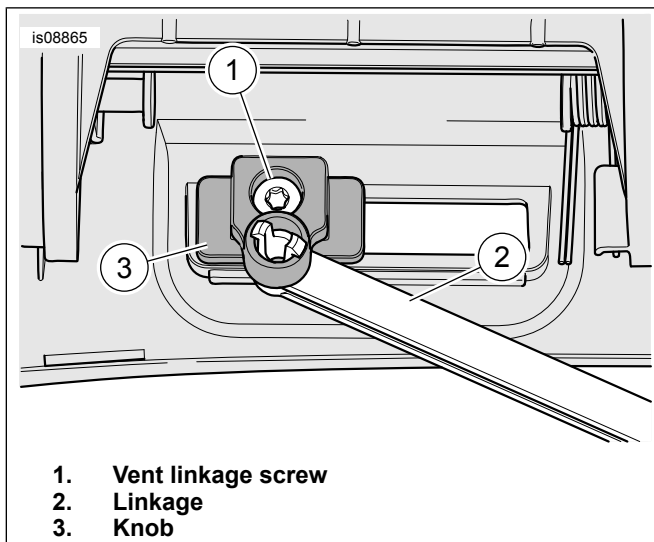

Figure 4. Vent Linkage Screw
4. See Figure 4. Remove screw (1). Remove linkage (2). Install on the new enclosure front. Tighten the screw to 1.3–2 N·m (12–18 in-lbs).